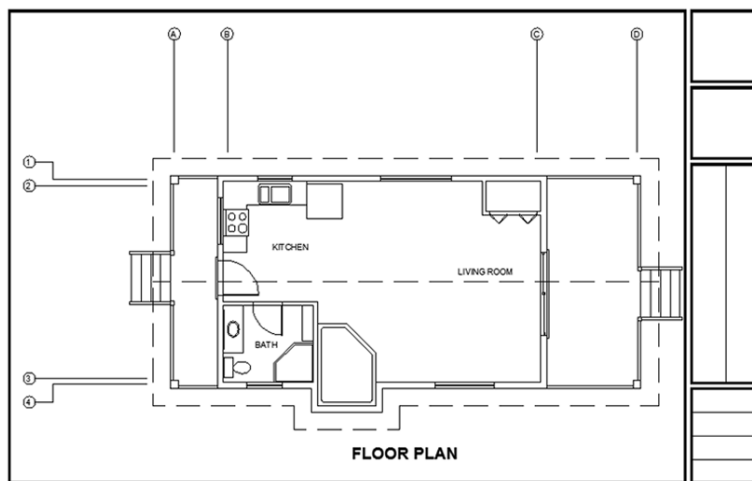

FIGURE 8.48: The completed title-block frame
14. Use the LINE command to subdivide the lower two rectangles along the right edge of your title block (look ahead to Figure 8.48):
- b. Use the Midpoint osnap to subdivide the largest rectangle vertically.Your drawing should now look like Figure 8.48.